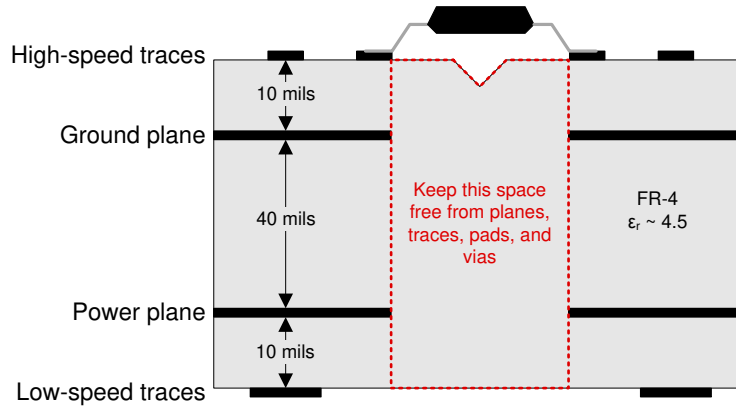

图 10-1. Recommended Layer Stack
On-chip IEC-ESD protection is good for laboratory and portable equipment but never sufficient for EFT and surge transients occurring in industrial environments. Therefore robust and reliable bus node design requires the use of external transient protection devices. Because ESD and EFT transients have a wide frequency bandwidth from approximately 3-MHz to 3-GHz, high-frequency layout techniques must be applied during PCB design. A minimum of four layers is required to accomplish a low EMI PCB design (see Figure 10-1).
- Apply 100-nF to 220-nF bypass capacitors as close as possible to the VCC-pins of transceiver, UART, controller ICs on the board (see Figure 10-1).
- Use at least two vias for VCC and ground connections of bypass capacitors and protection devices to minimize effective via-inductance (see Figure 10-1).
- Use 1-k Ω to 10-k Ω pullup and pulldown resistors for enable lines to limit noise currents in these lines during transient events (see Figure 10-1).
- Insert pulse-proof resistors into the A and B bus lines if the TVS clamping voltage is higher than the specified maximum voltage of the transceiver bus pins. These resistors limit the residual clamping current into the transceiver and prevent it from latching up (see Figure 10-1).